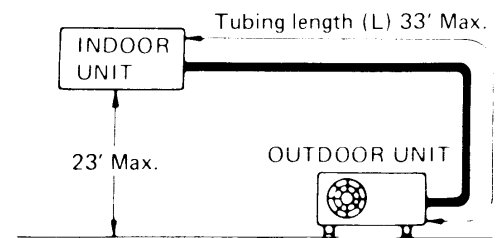

Fig. 2
- install unit within 23' up or down of outdoor unit and within a total of 33' from outdoor unit. Fig. 2.